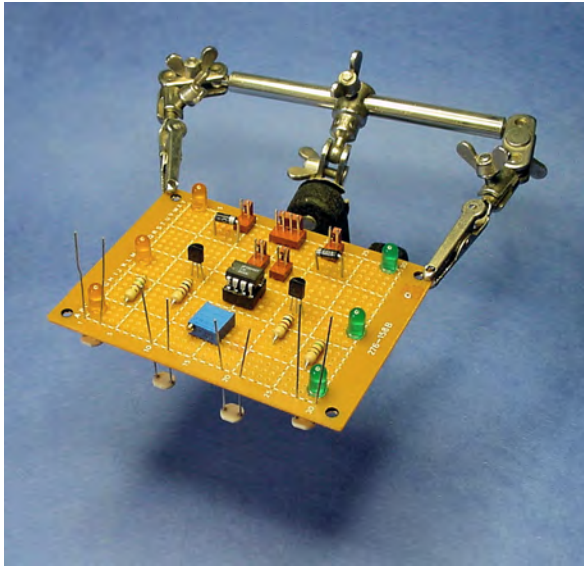

Figure 23-4. Helping Hands makes laying out a circuit board much easier
2. Place the board on a Helping Hand tool (see Figure 23-4).